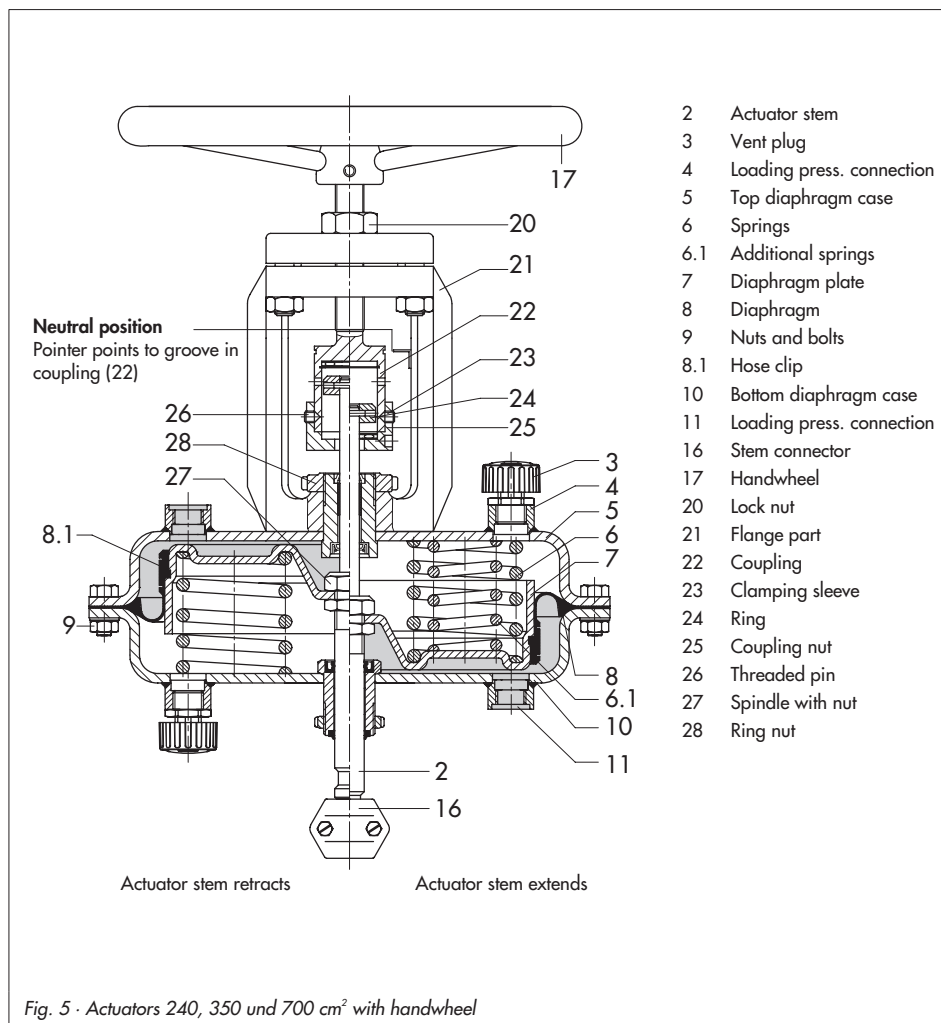

Fig. 5 · Actuators 240, 350 und 700 cm² with handwheel
Actuators with an **additional manual override** (Fig. 5) have a handwheel that moves the actuator stem over a spindle after the locking mechanism (lock nut) has been disengaged. A side-mounted handwheel (Fig. 8) moves the stem over a bevel or worm gear.
Note! Only apply the loading pressure to the diaphragm chamber that does not contain the springs. It is important for a troublefree operation of the actuator that the vent plug (3) is not blocked. Make sure in versions with a handwheel that the plug stem can move freely when the valve is being positioned by the pneumatic actuator by moving the handwheel into a neutral position (Fig. 5 for 240 to 700 cm² and Fig. 8 for 1400 and 2800 cm²).
240, 350 and 700 cm² (Fig. 5) only